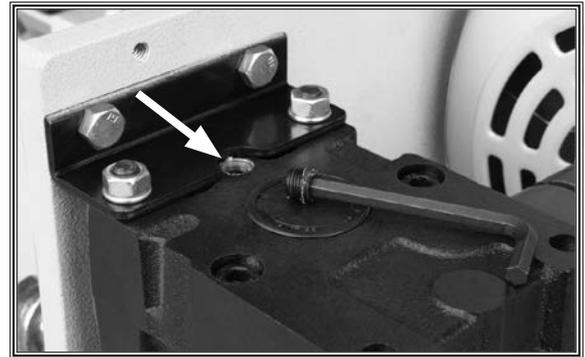

Figure 27. Oil fill hole and fill plug.
5. Remove oil fill plug on top of gearbox, as shown in **Figure 27**, and fill with SAE 80W gear oil until level is 1/2" from top. Replace oil fill plug.